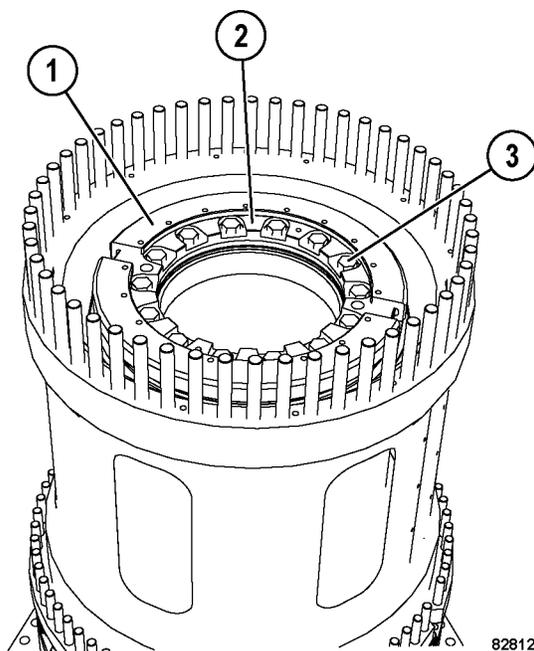

FIGURE 50-40.
21. Attach an eye bolt (M16 x 2.00) to each spacer (1, Figure 50-40). Attach lifting chains and a hoist to the lift eyes and individually lift each spacer from the assembly. Each spacer weighs approximately 26 kg (57 lb).
22. Remove 14 cap screws (3) that secure retainer (2). Attach two lift eyes (M16 x 2.00) to the retainer. Attach lifting chains and a hoist to the lift eyes and lift the retainer from the assembly. The retainer weighs approximately 95 kg (209 lb).